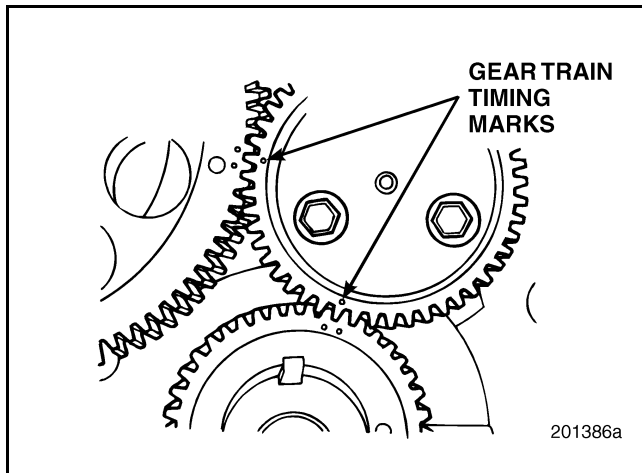

Figure 355 — Timing Marks Properly Aligned
- Position the idler gear timing marks so they align (Figure 355) with the crankshaft and camshaft gear timing marks. Then, slide the idler gear/hub assembly into position on the cylinder block.